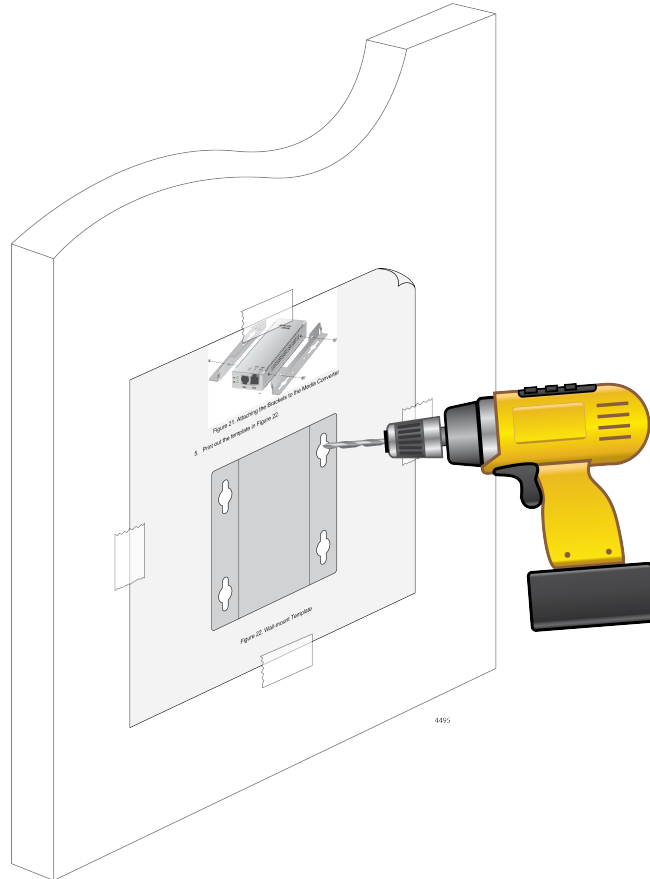

Figure 17. Placing the Template on the Wall
7. Pre-drill four 3/16" (5mm) holes at the locations on the templates as shown in Figure 17.